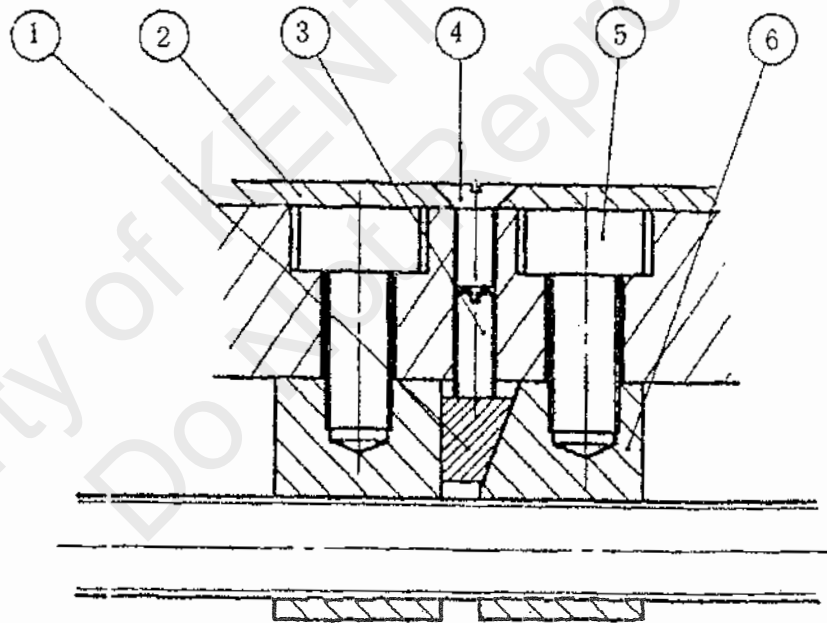

Fig. 16 Cross Feed Screw/Nut Assembly Adjustment
6.5 Cross feed screw/nut backlash adjustment (refer to Fig.16)